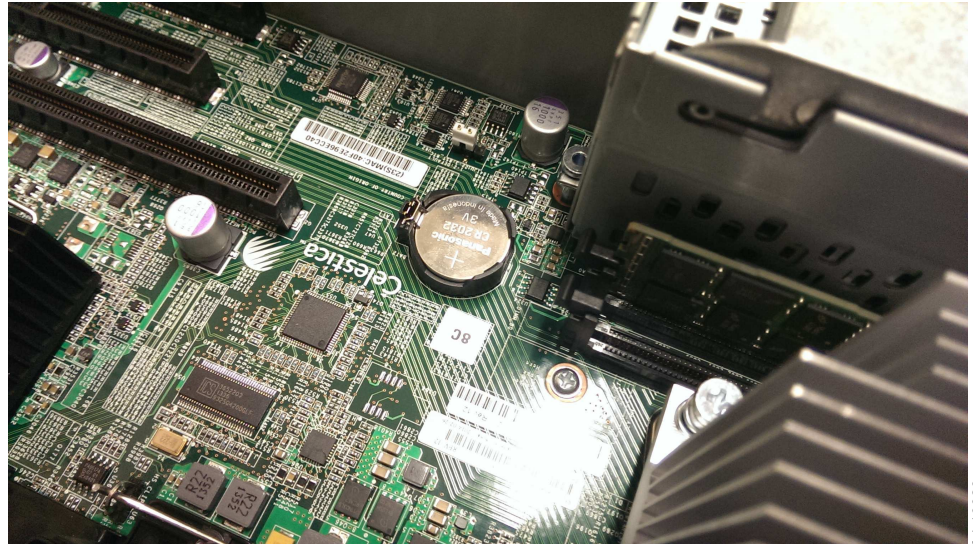

Figure 48. Replacing a CMOS Gen2 battery
3. Locate the CMOS battery inside the node canister. Figure 48 shows an example,